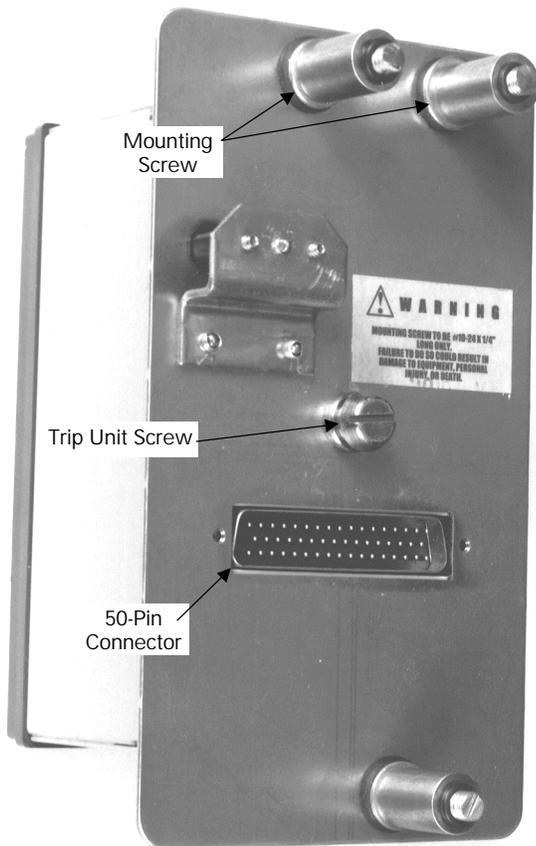

Figure 12. Trip unit attached to its mounting plate.
1. Place a lock washer and flat washer over each of the three 1/4-20 x 1 3/8" screws provided and insert through the mounting holes on the trip unit mounting plate. From the rear of the plate, place a flat washer, spacer, and O-ring over the screws, as shown in Figure 12.
2. Remove the large screw from the rear of the trip unit. Place the trip unit in position on the mounting plate, with the 50-pin connector aligned with the opening in the plate. Secure with the large screw, as shown in Figure 12.